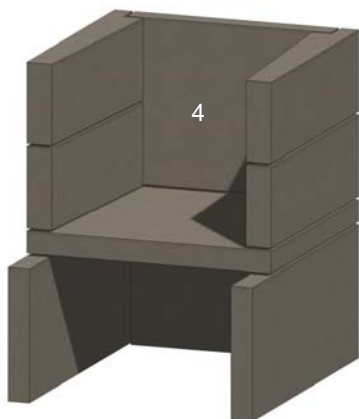

Figure 13. Back Plate
G. Install the back plate (4). See Figure 13.